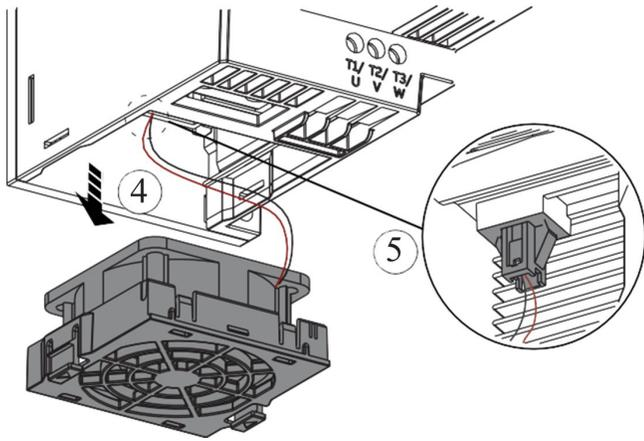

Fig. 51 — Disconnecting the Fan
- Disconnect the fan power cable. (See Fig. 51.)